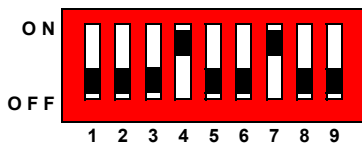

FIGURE 1. INITIAL DIP SWITCH SETTINGS
Step 1: Switch on bit 4 and bit 7 of the Dip-switch. Leave all other bits off, (See Figure 1.)